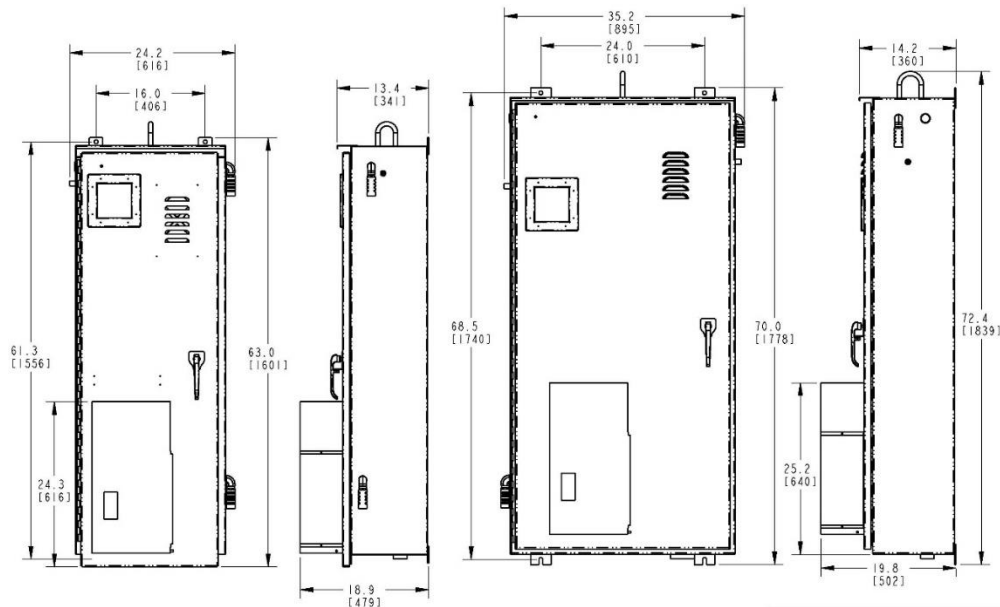

Figure 3 – Generator Mounting Dimensions: Standard Generator (left) and Generator with Bottle Back-Up (right)
1. Measure and mark the mounting holes or studs as shown by the center-to-center distances of Figure 3 above. **IMPORTANT:** Verify the bolt holes are level and high enough to support cabinet above grade.